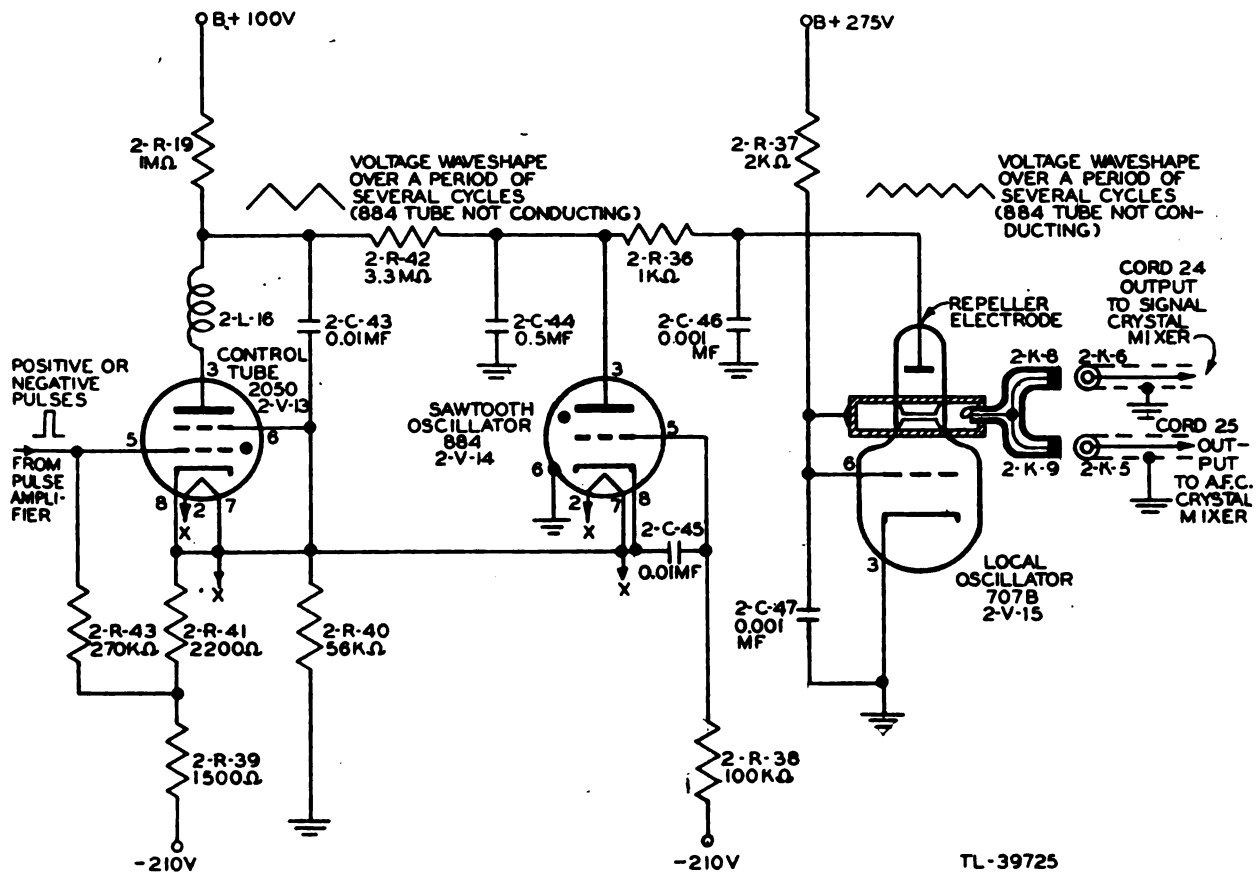

Figure 86. A.F.C. control tube, sawtooth oscillator, and local oscillator, simplified schematic diagram.
*f. CONTROL TUBE AND SAWTOOTH OSCILLATOR.* Both the 2050 control tube 2-V-13 and the 884 sawtooth oscillator 2-V-14 (fig. 86) are normally biased to cut-off.